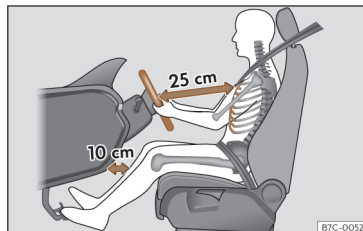

Fig. 14 The correct distance between the driver and the steering wheel must be at least 25 cm (10 inches).
- Adjust the steering wheel so that it is at a distance of at least 25 cm (10 inches) from the sternum >>> Fig. 14 and can hold it with both hands on the sides, on the outside, with the arms slightly flexed.